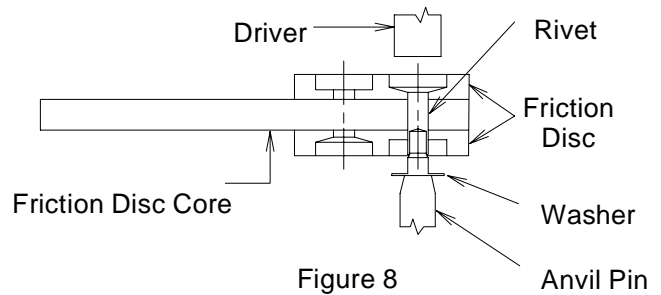
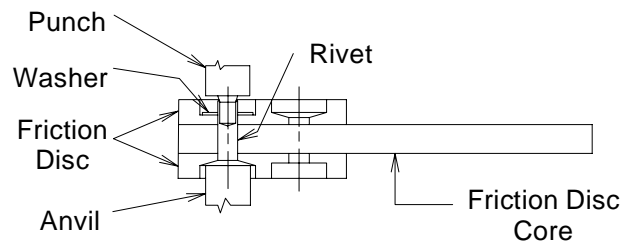

Figure 8
Figure 9
- 4.3.6.4 Insert a rivet through any hole and set using a washer on the clinched end of the rivet. Be sure to note the type of counterbored hole to determine the position of the rivet head. See Figures 8 and 9. Figure 8 shows machine-setting and Figure 9 shows setting the rivet manually. When setting manually, use an arbor press and keep the setting tool square to avoid splitting the rivet.